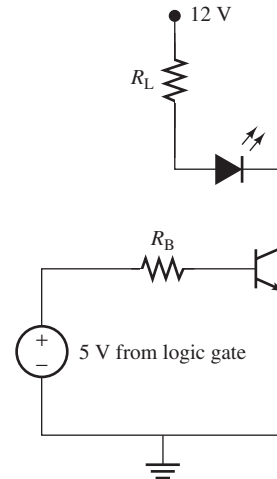

FIGURE P8.52 Logic gate-controlled photodiode.
- 8.52** (A) A transistor switch (operating in the saturation region) is controlled by the output of a digital logic gate as shown in Figure P8.52. The output of the logic gate is 5 V. A resistor (R_B) is needed to limit the current out from the digital logic gate to 5 mA to protect it, and a resistor (R_L) is also needed to limit the current through the photo-diode to 10 mA. Calculate the value of the two protecting resistors.